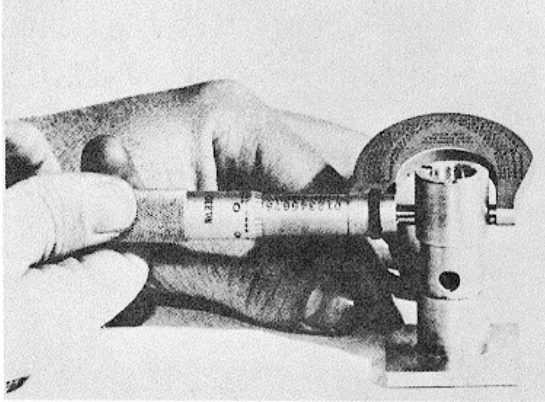

Fig. 10-20, T-316. Measuring floating bearing O.D.
2. Measure O.D. and I.D. of bearings. Fig. 10-20. If either diameter is worn beyond limits shown in Specifications, bearing must be discarded.